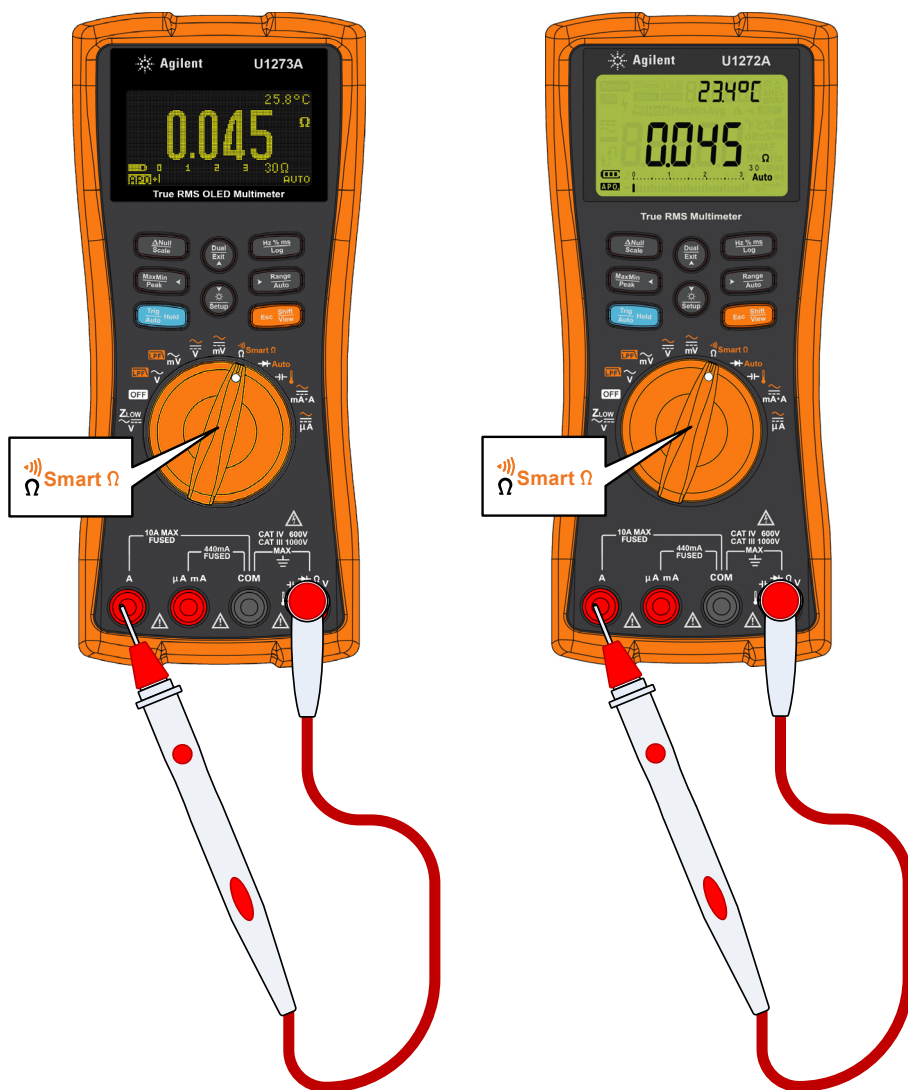

Figure 2-2 Testing Fuse 2
- 3 To test Fuse 2, place and touch the tip of the test probe on the left half of the **A** input terminal. Ensure that the probe tip touches the metal inside the **A** input terminal, as shown in Figure 2-2.